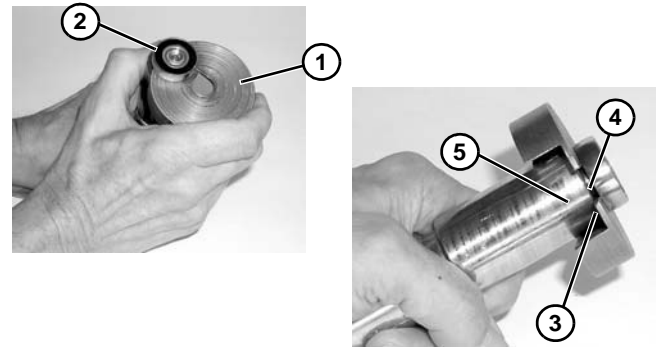

Figure 112
1. Place bearing removal tool part #456063 (Figure 112, item 1) below bearing (Figure 112, item 2) with lip (Figure 112, item 3) located in gap (Figure 112, item 4) between bearing and spindle hub (Figure 112, item 5) as shown.